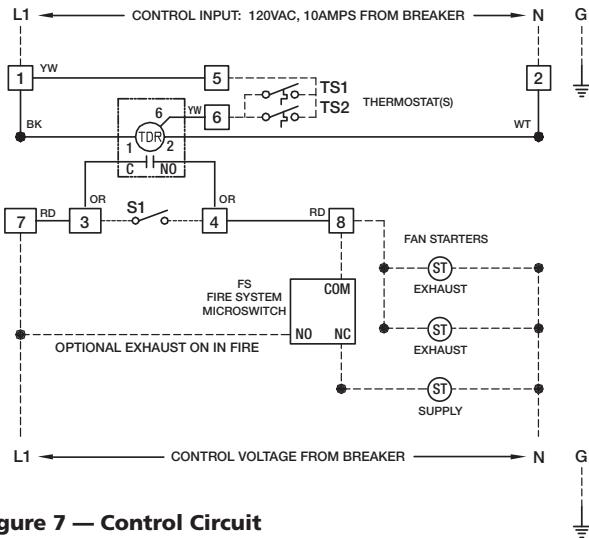

Figure 7 — Control Circuit
- Run two 14 awg, 90°C minimum conductors, black, in conduit from each thermostat to the appropriate electrical circuit connections. (See Step 3 and Figure 7 for connection options.)
- Choose the final connection based on terminals 5 and 6 in control box on top of hood/utility cabinet. See Figure 7.
BREAKER PANEL TO CONTROL BOX (SEE FIGURE 7)
- 120V, 24V or other control circuit (see Figure 7 on page 3)